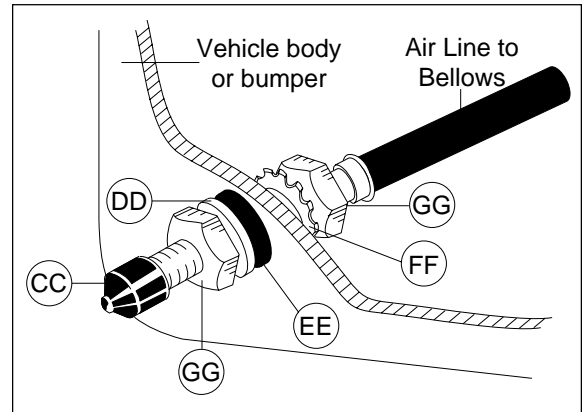

Figure 9
4. Place a $\frac{5}{16}$ " nut (GG) and a star washer (FF) on the air valve. Leave enough of the inflation valve in front of the nut to extend through the hole and have room for the rubber washer (EE), flat washer (DD), and $\frac{5}{16}$ " nut (GG) and cap (CC). There should be enough valve exposed after installation - approximately $\frac{1}{2}$ " - to easily apply a pressure gauge or an air chuck (Figure 9).
5. Push the inflation valve through the hole and use the rubber washer (EE), flat washer (DD), and another $\frac{5}{16}$ " nut (GG) to secure it in place. Tighten the nuts to secure the assembly in place (Figure 9).
6. Route the air line along the frame to the air fitting on the air spring. Keep at least 6" of clearance between the air line and heat sources, such as the exhaust pipes, muffler, or catalytic converter. Avoid sharp bends and edges. Use the plastic tie straps (BB) to secure the air line to fixed, non-moving points along the chassis. Be sure that the tie straps are tight, but do not pinch the air line. Leave at least 2" of slack to allow for any movement that might pull on the air line.